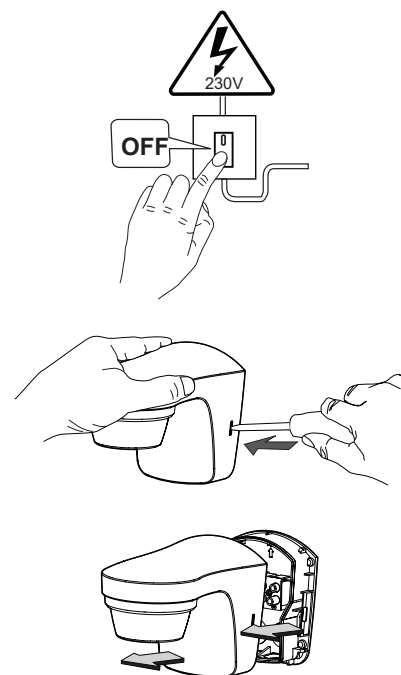

fig. 2
- ① Disconnect the system from voltage and secure it against being switched on again.
- ② Drill the fixing holes (Ø 6 mm) into the wall following the drilling template. Remove the back of the motion detector (see "Disassembly") and pierce the membrane for the cable throughput.
- ③ With no power running through them, run the connection cables for the motion detector and external button, if necessary through the seals. Securely screw the back of the motion detector to the wall. Connect the connecting cables according to the wiring diagram (see figure 2).
- ④ Place the motion detector on the base and click it into place.
- ⑤ Set the Easywave receiver to learning mode for the ON/OFF operating type, 2-button operation (see receiver operating instructions). The receiver remains in learning mode for a few seconds.
- ⑥ Switch the power supply for the motion detector back on while the receiver is still in learning mode. The SM01 sends Easywave transmission code **A** and is now taught-in to the receiver.
- ⑦ Conduct a walking test (see "Adjusting the detection zone") and set your preferred time and brightness settings (see "Settings").